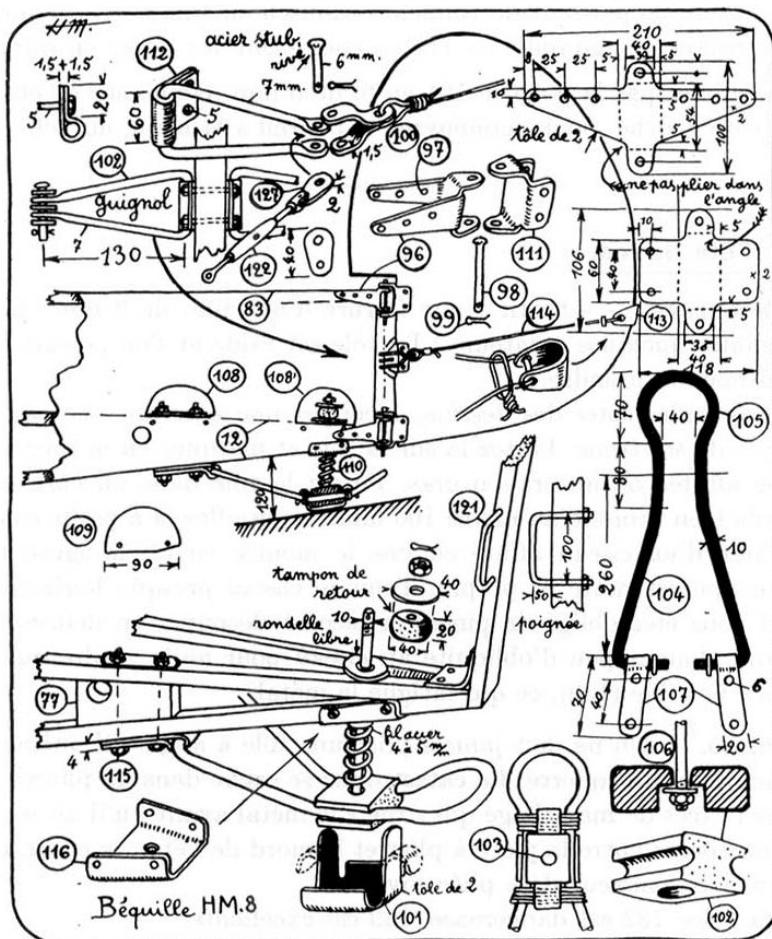

Figure 3.19: Rear landing gear
The trailing joint of the longerons ⑧ is clamped inside a fitting ⑥ in 2mm steel by three 5mm threaded rods ⑦ (fig 3.19). An exactly similar fitting is held to the trailing joint of longerons ⑫ and ⑯. Their outer lugs connect them to the lugs of the rudder fittings ⑪ and ⑫, by hinge pins ⑧ and cotter pins ⑨.
Finally, the double strand will join the turnbuckle (122) (fig. 3.19) where it is attached by a cable clamp (123) designed for 4.5mm cable. Tie each loose end and join them both to the cable. Leave 50—100mm excess.